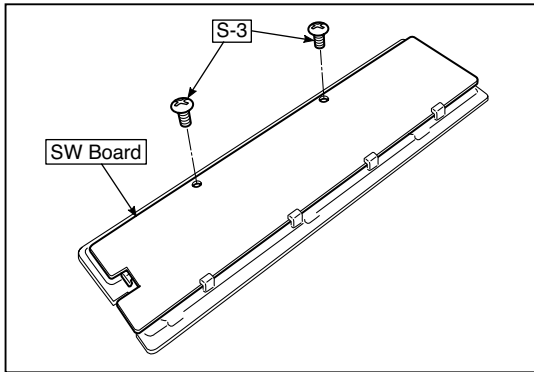

Fig.17
3.Remove the “S-3” screws shown in the figure 17 and then remove the SW Board.